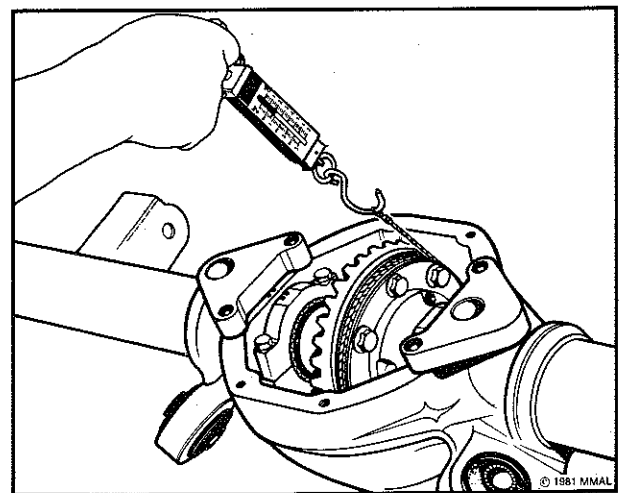

Fig. 27—Measuring side bearing preload
(1) Rotate differential several turns to seat side bearings.
(2) Wrap a cord around the outside diameter of the differential housing flange and check preload by pulling the end of the cord with a spring balance, refer Fig. 27.